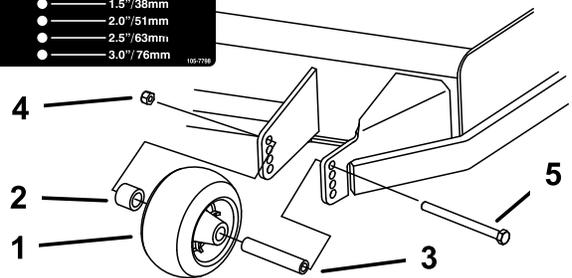

Figure 29
3. Adjust the anti-scalp rollers as shown in Figure 29, Figure 30, and Figure 31.